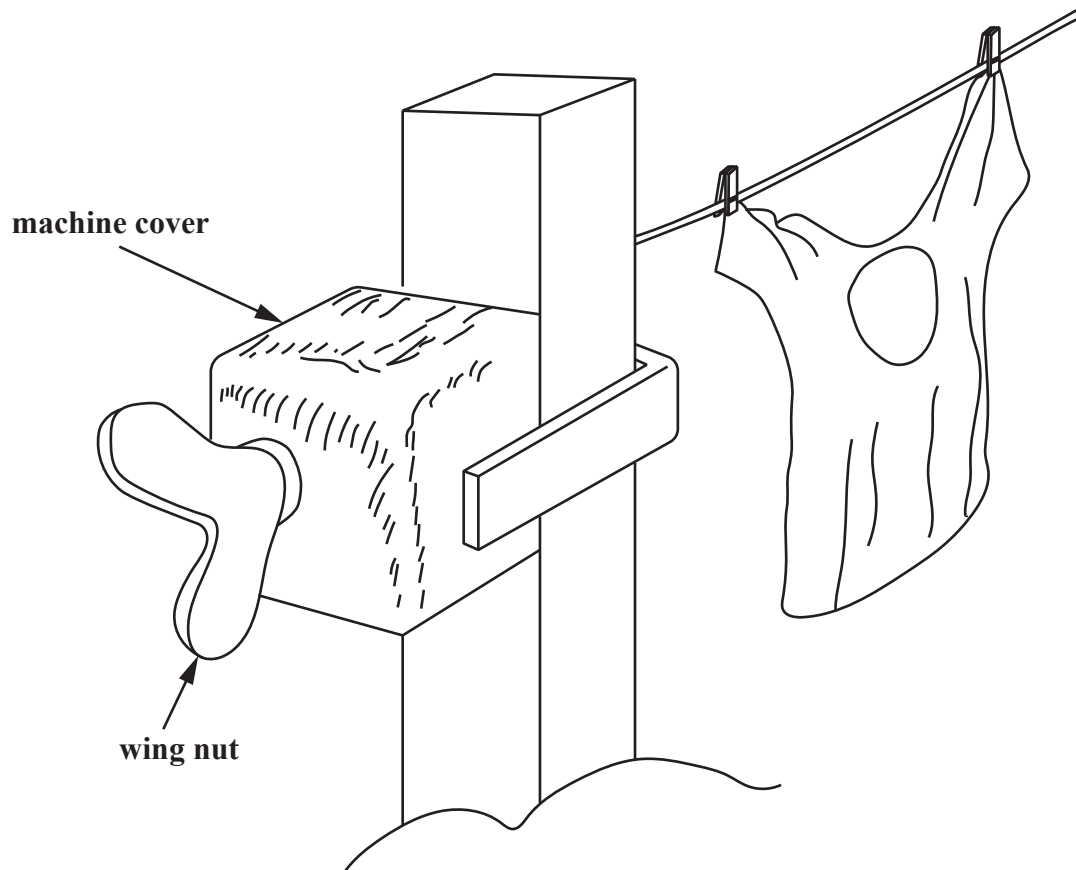

Fig. 2(a)
- 2 (a) **Figure 2(a)** shows a clothes' drying line attached to a concrete pillar. Connected to the concrete pillar is a machine which can tighten the clothes line when the wing nut is turned manually.